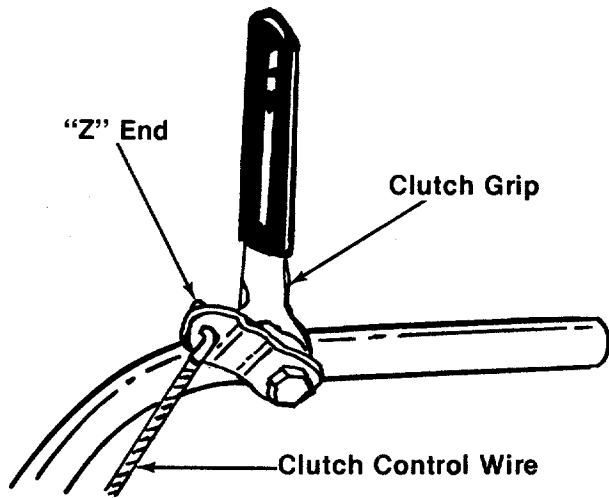

FIGURE 16.
19. Hook the "Z" end of clutch cable wire into clutch grip. See figure 16.